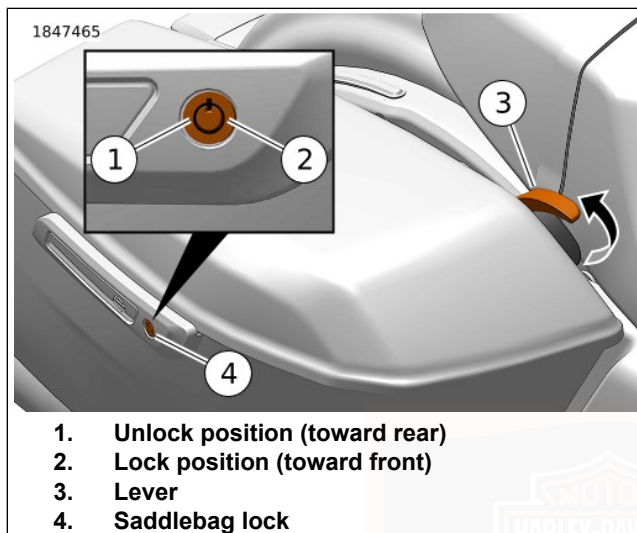

Figure 61. Saddlebag
See Figure 61. Insert key. Rotate key one-quarter turn toward front of vehicle. Return key to center to remove key.
See Figure 61. Insert key. Rotate key one-quarter turn toward rear of vehicle. Return key to center to remove key.
1. See Figure 61. Unlock saddlebag.
2. Lift the saddlebag lever (3).
1. See Figure 61. Close the saddlebag lid.
2. Push the lever (3) down to engage the latches. Check that the lid is secure.
1. See Figure 61. Open the saddlebag.